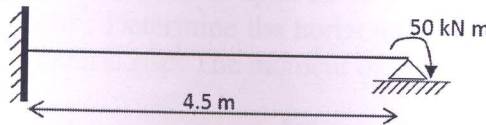

Fig. 1
- b) Define the carry-over factor and obtain the carry-over factor for a beam of prismatic member shown in Fig. 1. [3]